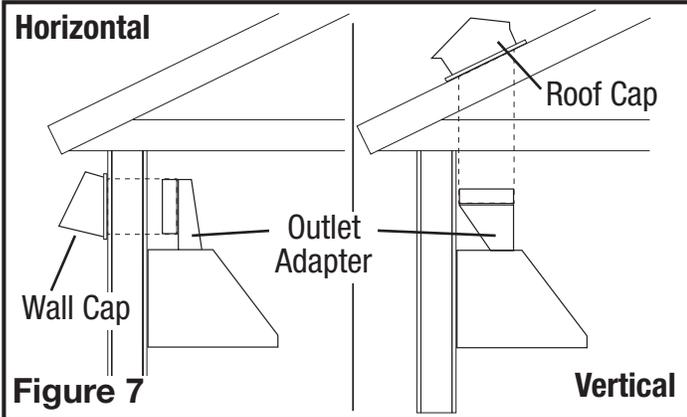

Figure 7
1. Determine the type of ducting you will require (Figure 7).